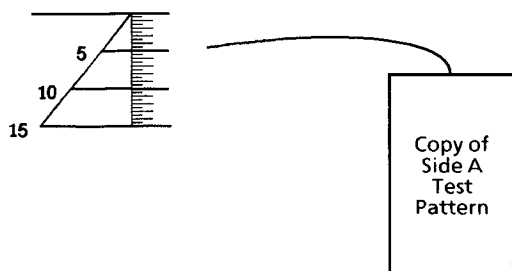

Figure 1. Checking the Edge Deletion
- c. Check that the lead edge deletion is not greater than 3 mm on A4 / 8.5 x 11 size copies and not greater than 1.5 mm on A5 / 5.5 x 8.5 size copies. Check that the trail edge deletion is not greater than 3 mm on A4 / 8.5 x 11 size copies, not greater than 5 mm on A5 / 5.5 x 8.5 size copies, and not greater than 5 mm on duplex copies (Figure 1).